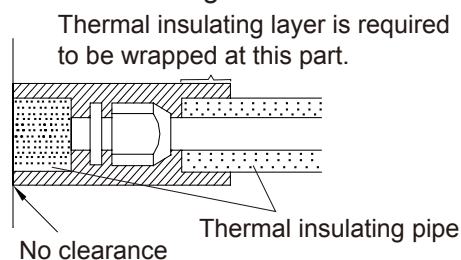

Fig.36
- 3) Joints at indoor and outdoor units should be wrapped with insulating material and leave no clearance between pipe and wall. See Fig.36.